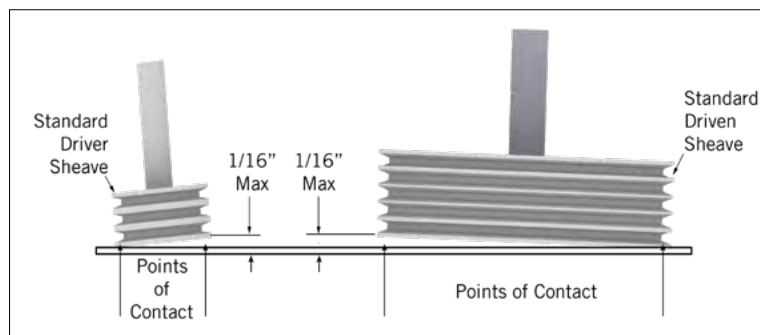
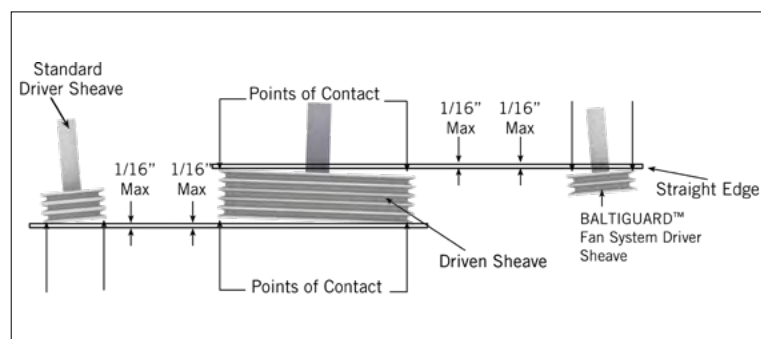

Figure 6a. Standard Drive Alignment
Figure 6b. BALTIGUARD™ Fan System Drive Alignment
- Place a straight edge across the driver and the driven sheaves as shown in **Figure 6a** for standard drives and in **Figure 6b** for the BALTIGUARD™ Fan System.